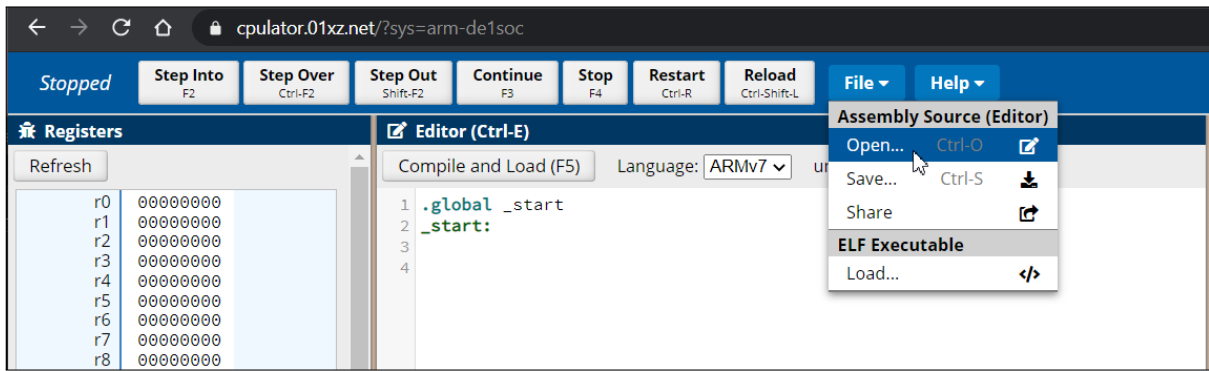
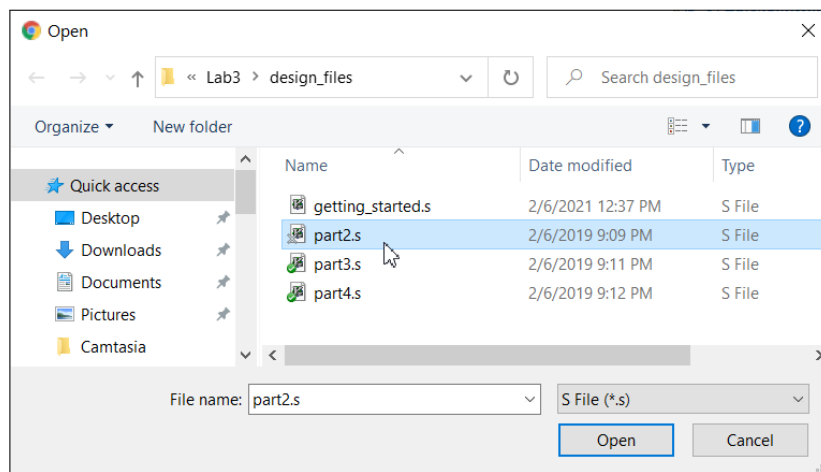

Figure 2: The File menu in CPULator.
Figure 3: Selecting the *part2.s* file.
1. Create an assembly-language source-code file for the program in Figure 1, and name the file *part2.s* (this file is included in the *design files* for this lab exercise). Then, open the *CPUlator* web-site and set its system parameters to choose the ARMv7 processor and DE1-SoC board (the corresponding URL for the *CPUlator* web page should be <https://cpulator.01xz.net/?sys=arm-del-soc>). As indicated in Figure 2, click on the **File** command near the top of the *CPUlator* window and then select **Open . . .**. Next, in the dialogue depicted in Figure 3, browse in your computer's file-system to choose the *part2.s* file and then click **Open**.